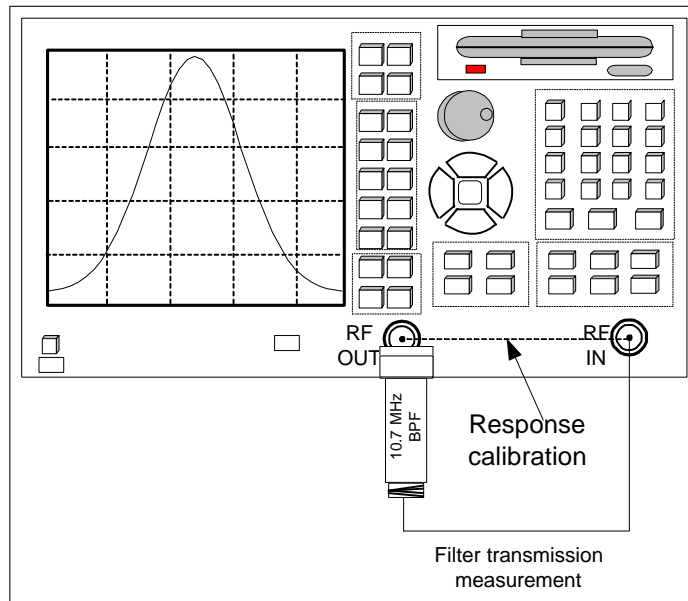

Fig. 10 Response calibration and transmission measurement of a BPF.
1. Connect a coax cable to the network between **RF out** port and **RF in** port (see Fig. 10 dashed line).
1. Disconnect the coaxial cable and connect the BPF to the reflection port of the Network Analyzer, as indicated in Figure 10.
- Connect a 5m long, coaxial cable to the Network Analyzer as indicated in Fig. 10 dashed line.